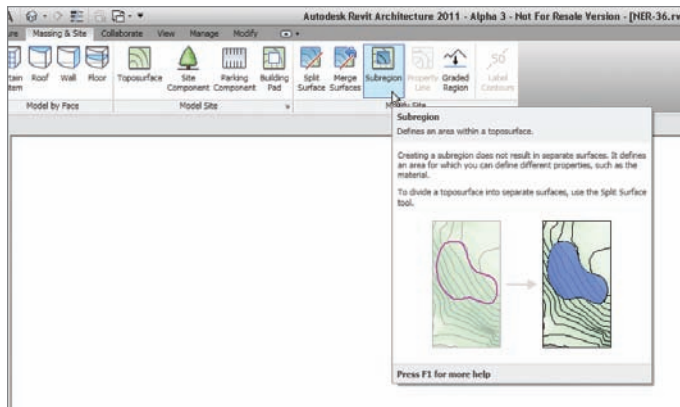

FIGURE 18.11 The Subregion button
3. On the Massing & Site tab, click the Subregion button, as shown in Figure 18.11.